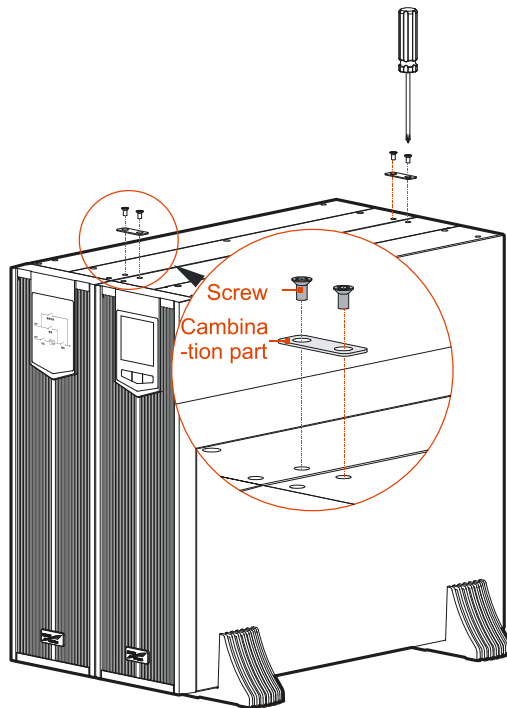

Figure3-5 Install combination units
Step 3 Take out the combination parts and screws, and fasten them onto the top of the UPS and distribution module, as shown in Figure3-5.